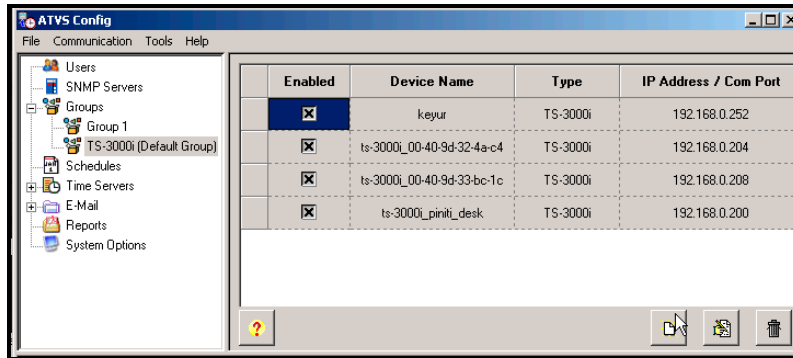

Figure 6-10. Group Selection.
Step 1. With the ATVS software open, the Device screen can be launched by going to the Groups icon in the tree view, and expanding the Groups list. Do this by clicking in the tree view on the +. All previously defined groups will appear (see *Figure 6-10*).